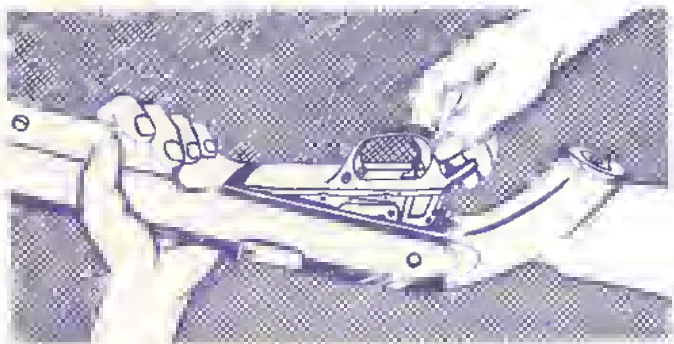
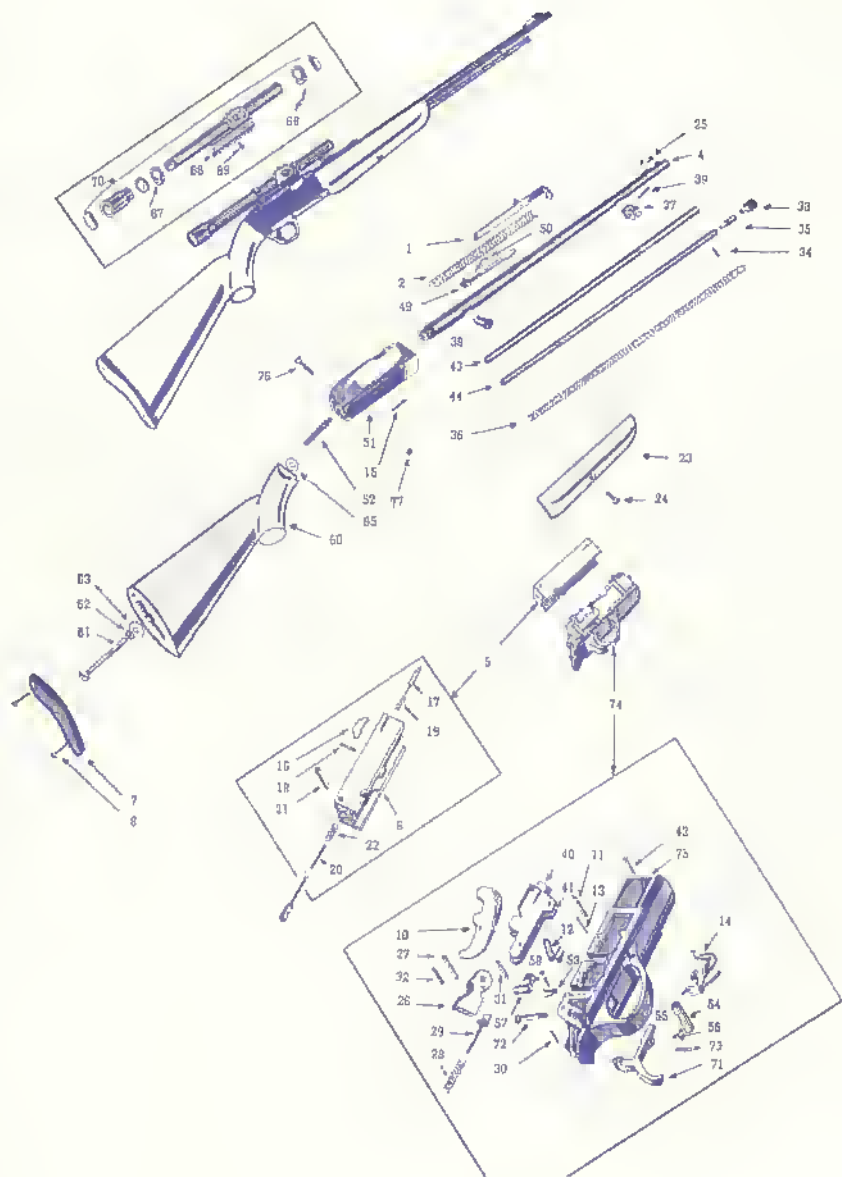

Figure 3
Figure 6
**TO REMOVE TRIGGER ASSEMBLY:** (Do only when necessary). Turn the gun upside down, remove trigger guard retaining screw. Grasp trigger guard and pull up and toward the butt stock. Trigger guard assembly will come free of the receiver as a unit. See figure 3.
**TRIGGER ASSEMBLY:** Remove inside magazine tube. Pull retracting handle back half way, and making sure that hammer is in cocked position (see figure 6.) replace trigger assembly by inserting lug on front end of trigger assembly to mating slot inside forward end of receiver. Holding gun in upside down position (see figure 3.) press down and forward against rear portion of trigger guard until it is fully home and seated. If it does not immediately drop into position, work retracting handle short distance back and forward. Insert and tighten trigger insert retaining screw, work the action by pulling back on the action bar handle to make sure that bolt functions. The gun is now completely re-assembled.